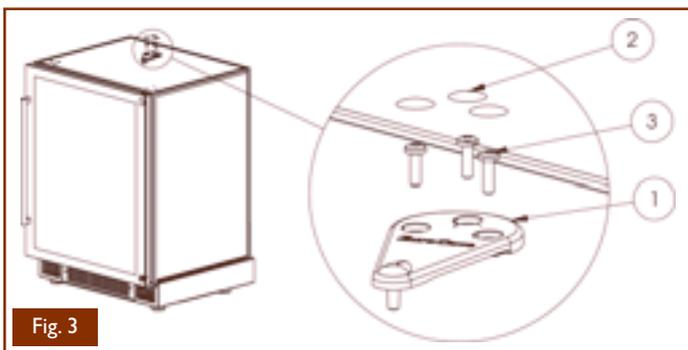

Fig. 3
- Remove the grommets (2) and screws (3) using a T25 Torx spanner and take off the hinge (1) (Fig.3).